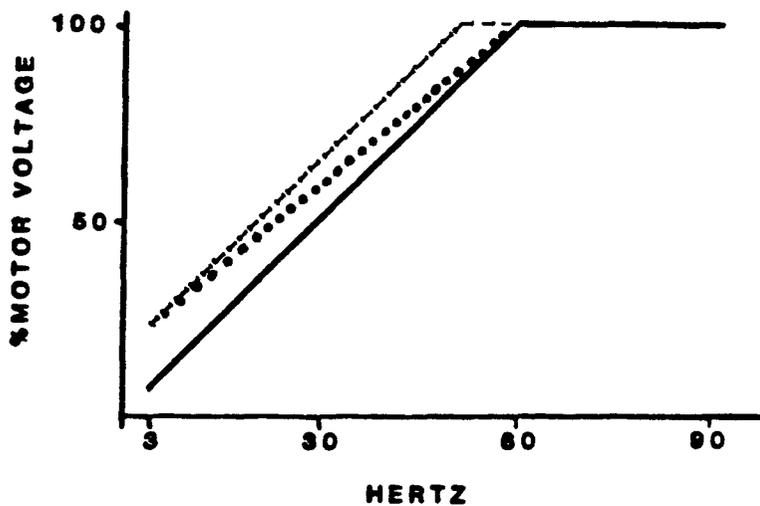

FIGURE 17
4. The volts/hertz curve requires readjustment if maximum frequency (12RH) was changed. Adjust the output of the inverter to 60 HZ with the speed pot. Make sure potentiometer 11RH (voltage boost) is at minimum setting (CW). Adjust 3RH for 5 volts at CN11-3 to COM.
6. Motor stalling or rough running at low speeds can be corrected with 11RH (VB). Voltage boost gives more voltage at slow speeds. Care should be used when adjusting 11RH, too much voltage boost can
heat up the motor and/or cause overcurrent tripping. When 11RH is adjusted, 3RH volts/hertz needs readjusting. Both adjustments interact, so several adjustments may be necessary to get the proper V/Hz ratio. Figure 17 shows a graph of the adjustments 11RH (VB) and 3RH (V/Hz).